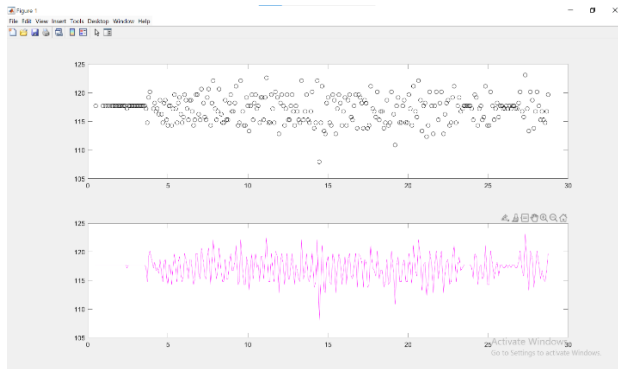

Figure 1 - Measured Temperature for 30 secs in Celsius
- Figure 1 displays the recorded temperature values over time (30 seconds). Each data point represents a sampled temperature at the given moment.
In Figure 1, we observed fluctuations in the temperature readings, which is a direct result to sensor noise, environmental factors, and variations in the applied heat source. Despite these fluctuations, a clear upward trend was evident when the sensor was exposed to an outside heat source, leading to the activation of the warning system at the set threshold.